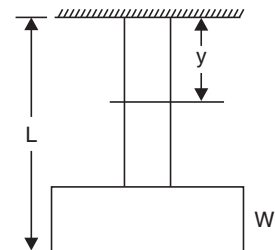

FIGURE 8.30
8. A vertical hanging bar of length L and weighing w N/unit length carries a load W at the bottom as shown in Fig. 8.30. The tensile force in the bar at a distance y from the support will be given by